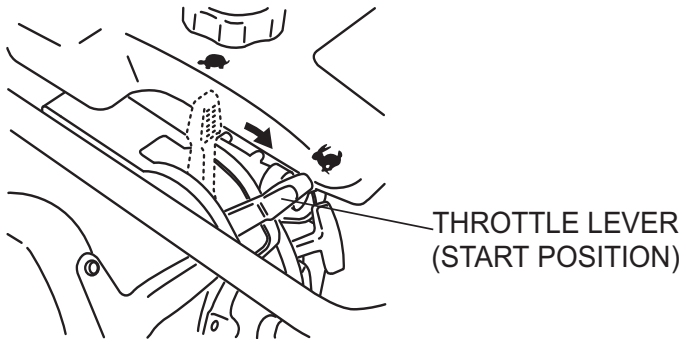

Figure 8. Throttle Lever (Start Position)
1. To start the rammer tamping action, move the throttle lever (Figure 8) **quickly** from **IDLE** to the **START** (👉) position. **DO NOT** move the throttle lever slowly as this may cause damage to the clutch or spring.